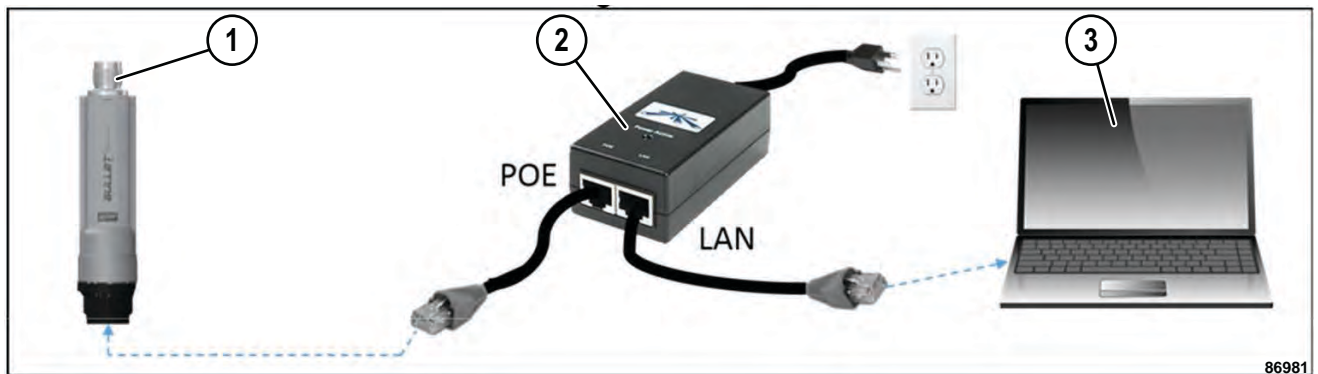

FIGURE 5-16. KWB POE ADAPTER CONNECTIONS
2. Connect POE adapter (2, Figure 5-16) to Bullet wireless radio (1) by using a CAT 5E network cable. Ensure that the cable is in the POE port as shown.
3. Connect POE adapter (2) to service computer (3) by using another CAT 5E network cable. Ensure that the cable is in the LAN port as shown.